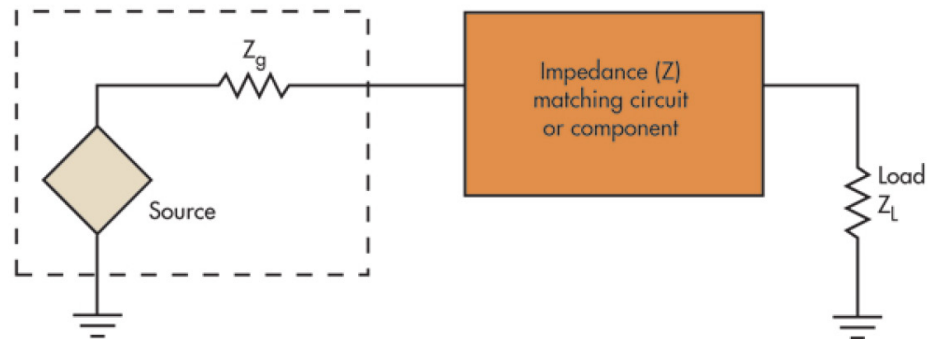

Fig 8. An impedance-matching circuit or component makes the load match the generator impedance.
The common problem of mismatched load and source impedances can be corrected by connecting an impedance-matching device between source and load (**Fig. 8**). The impedance (Z) matching device may be a component, circuit, or piece of equipment.